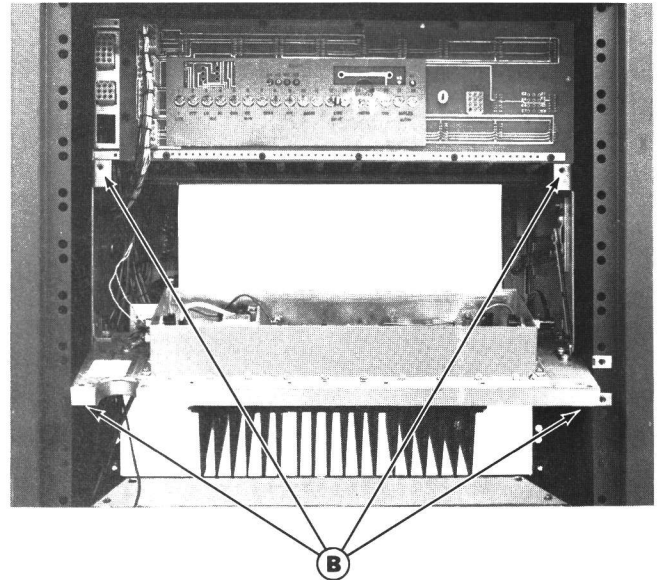

Figure 3 - Access to Power Amplifier Rear View
1. Remove the top two screws (B) on the Intermittent or Continuous Duty Power Amplifier. Refer to Figure 3.